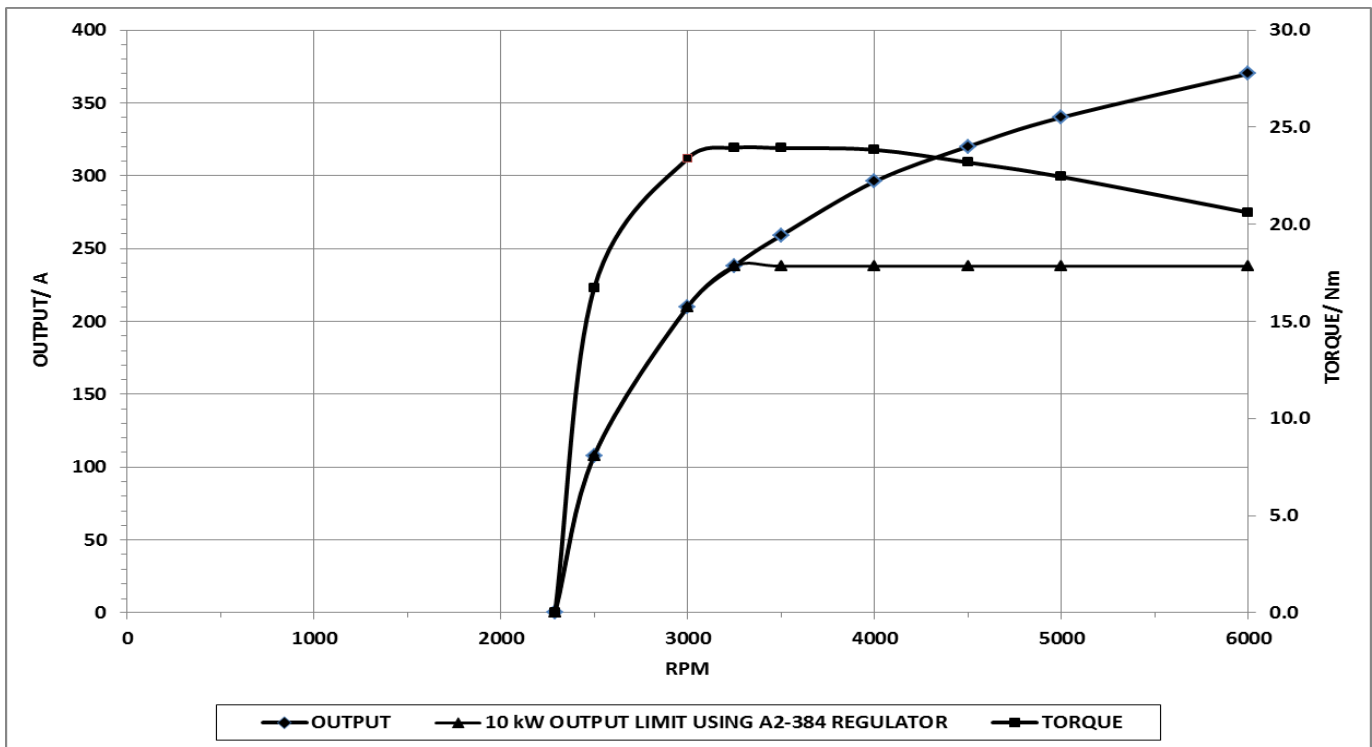

Figure 4 — 10kW Output Limiting Curve with A2-384 Regulator
- limits output power to 10kW throughout RPM range. See Figure 4 for output curves.